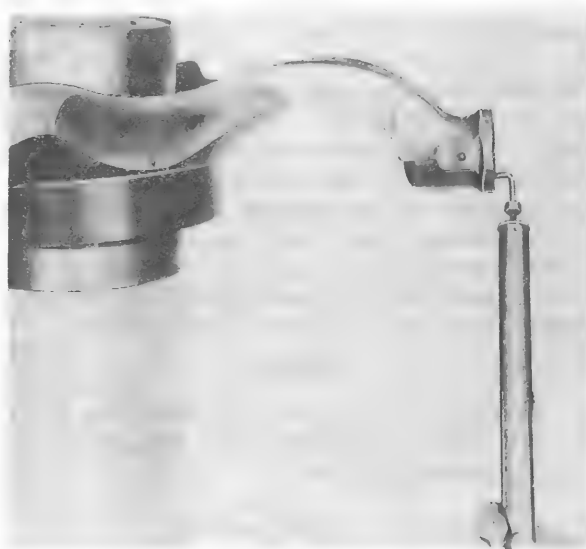

Figure 5-11. Checking Drag of Bearings in Star Assembly
p. If no end play exists between ball-ring (12) and sockets (11 and 14), slide rotating star (16) on a suitable shaft and, using a fish scale, check that star begins to move when a downward pull of 3 to 7 pounds is applied. (See figure 5-11.) Adjust for this test by using different thicknesses of the shim.